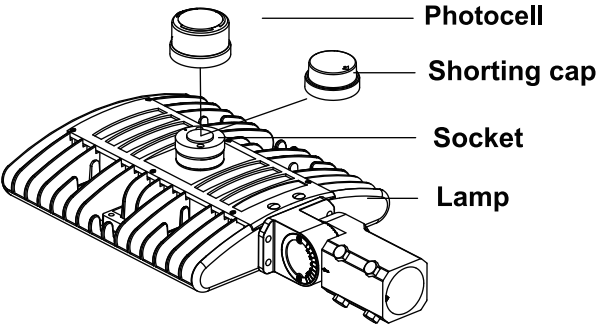

Figure 13-1
**Attention: When the photocell function is required, photocell should be installed on the back of lamp; When it's not required, shorting cap should be installed on the back of lamp; (Figure 13-1)**